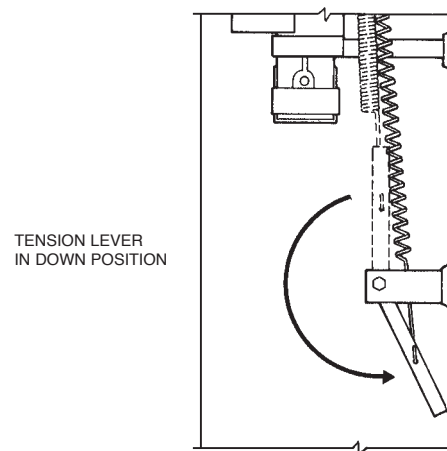

FIGURE 8-20
25. Lower the tension lever to **Down** position. See Figure 8-20.